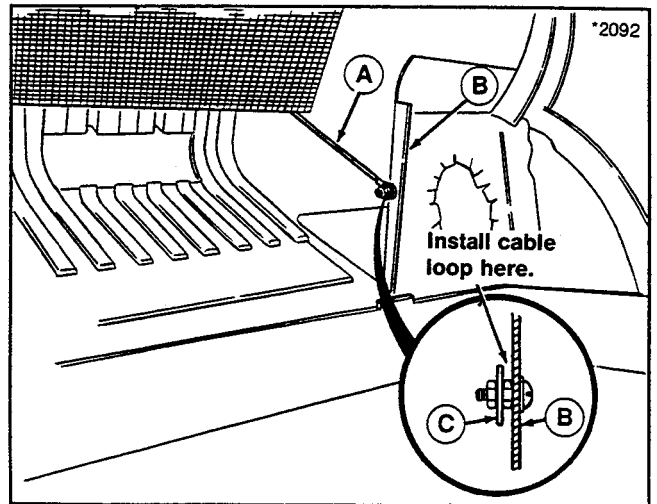

Figure 14.
18. Open cover and fasten cable (A, figure 14) to tube support (B) to prevent cover from going overcenter when opened. Loop end of cable fits over washer (C).